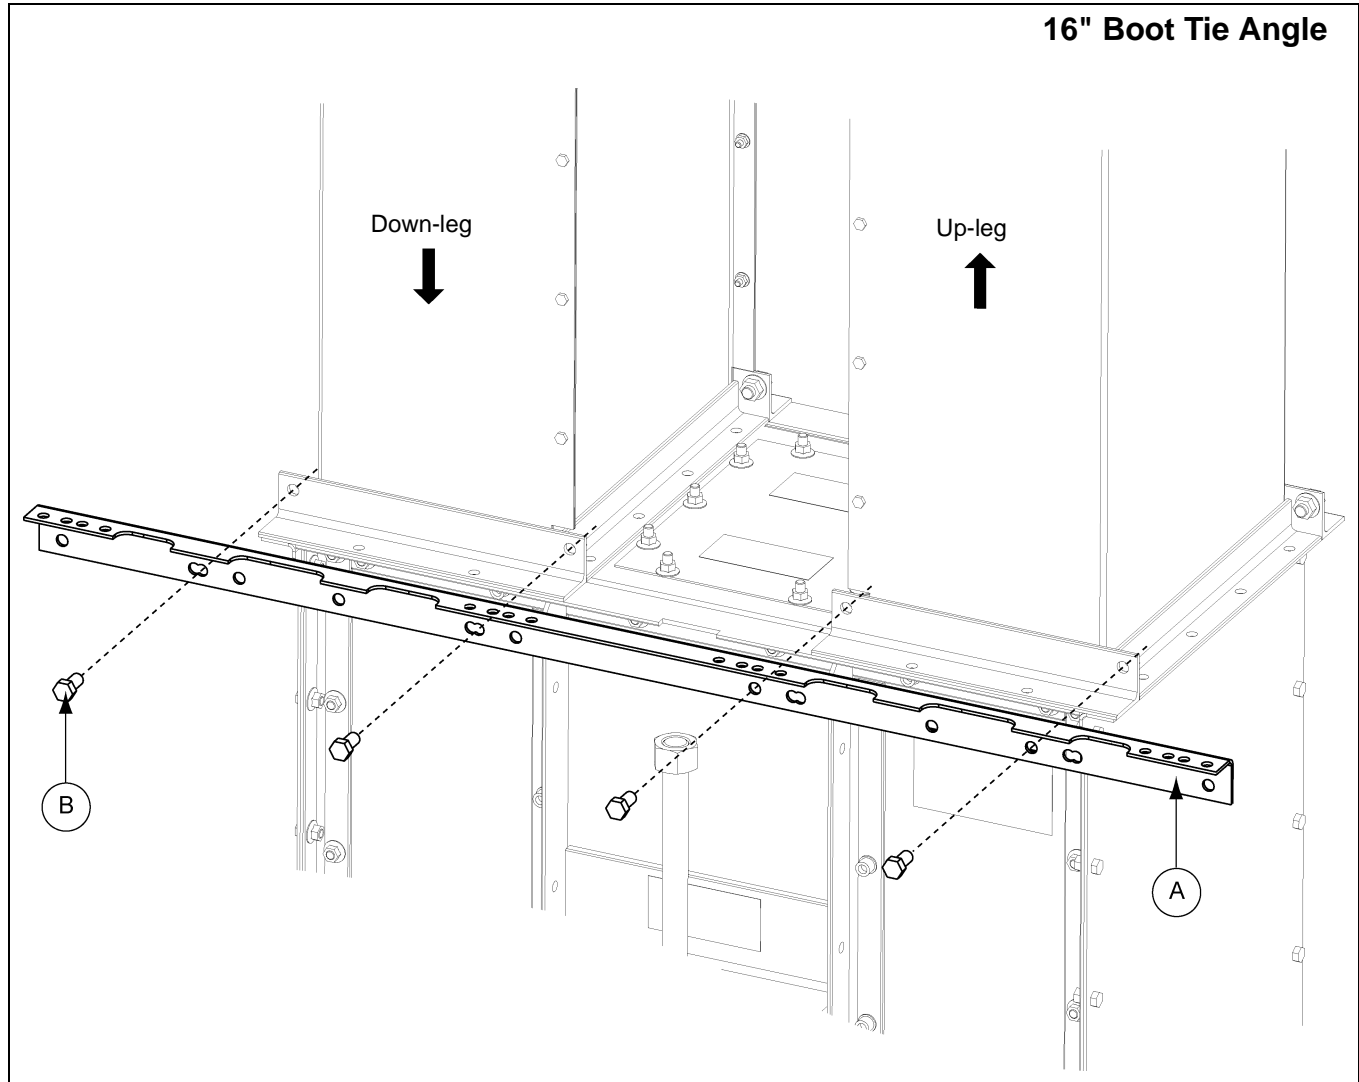
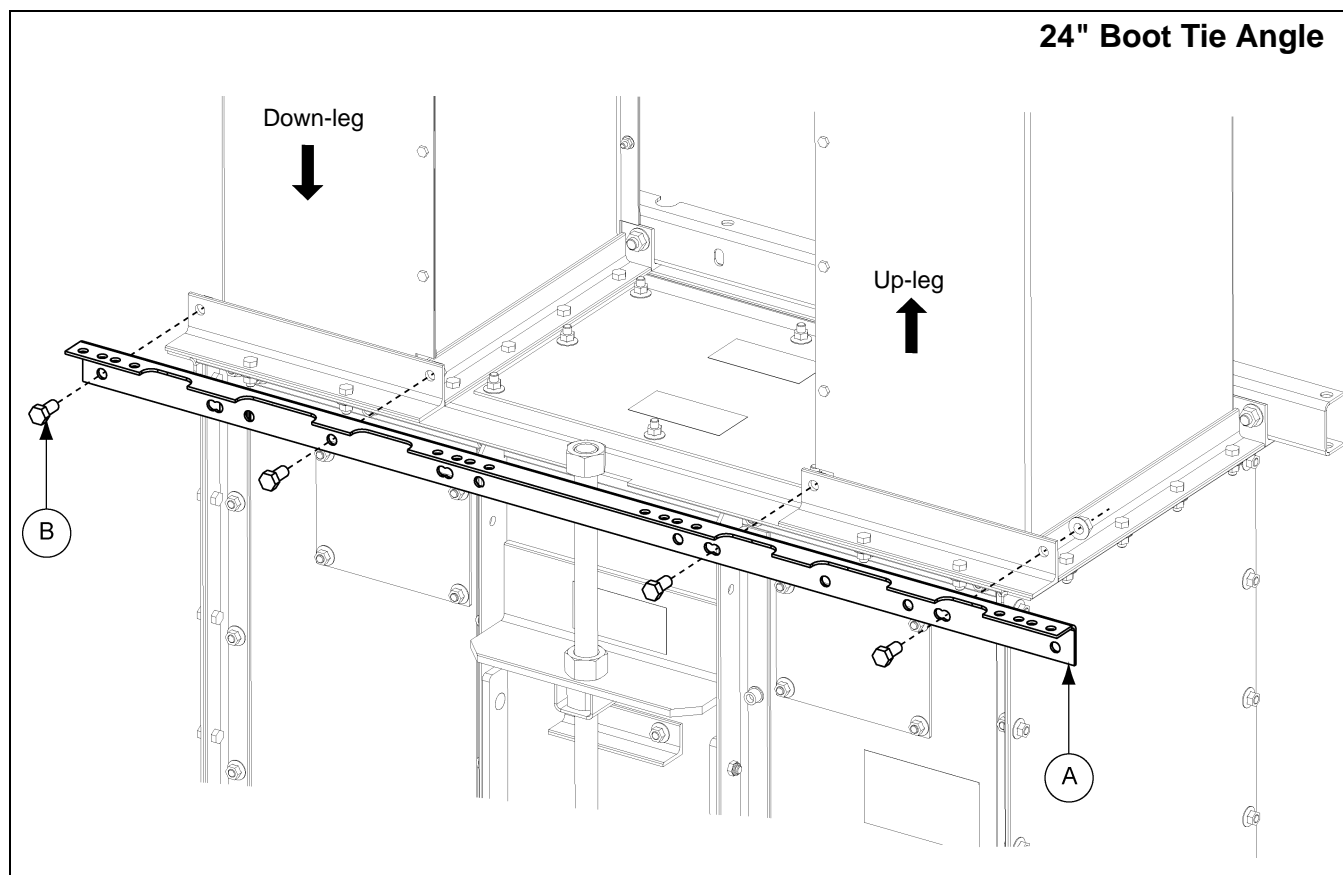

Figure 6A 16" Boot Tie Angle
Figure 6B 24" Boot Tie Angle
1. On the NON-LADDER SIDE, attach tie angle to the trunking using 1/2" x 1" bolts. *(See Figure 6A below and Figure 6B on Page 18.)*
- a. **For 16" Boot Tie Angle:** With lip of tie angle up and outward, align tie angle so that it extends beyond the trunking at each end. *(See Figure 6A.)*
- b. **For 24" Boot Tie Angle:** With lip of tie angle up and outward, align edge of tie angle to edge of trunking at down-leg end. With this alignment, tie angle will extend slightly beyond the edge of trunking at the up-leg end, as shown in Figure 6B.